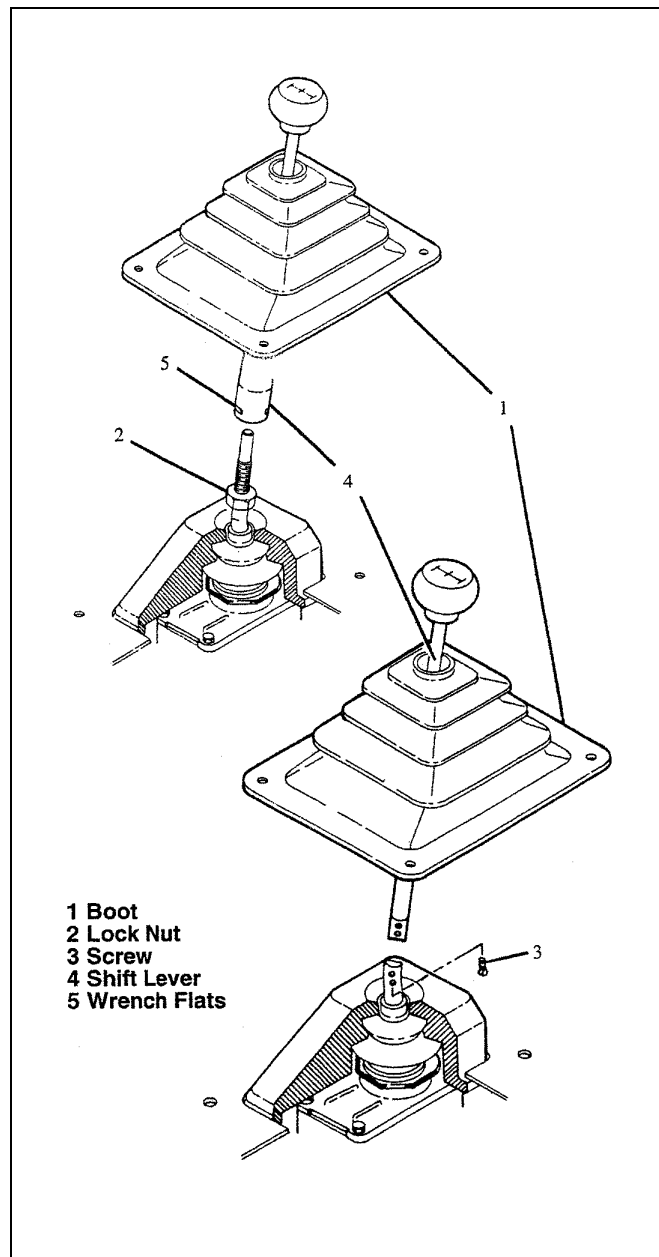

Figure 1-1. Shift Lever
- d. Remove shift lever (see figure 1-1):
1. Detach bottom of boot (1) so that it can be raised to provide access to lower end of shift lever. Boot attachment methods may vary from that shown.
2. If shift lever is threaded on, loosen lock nut (2), then remove shift lever (4) using wrench on flats (5) provided.
3. If shift lever is attached with screws (3), then remove screws (3) and shift lever (4).
- Install shift lever (see figure 1-1).
- If shift lever is attached with screws, align screw holes in shift lever (4) and transmission control lever and install screws.
- If shift lever is threaded on, screw shift lever (4) onto transmission control lever. Hold in desired position with wrench across flats and tighten nut up against shift lever (4) to 34 lb. Ft. (47 N.m).
- Reattach bottom of boot (1).